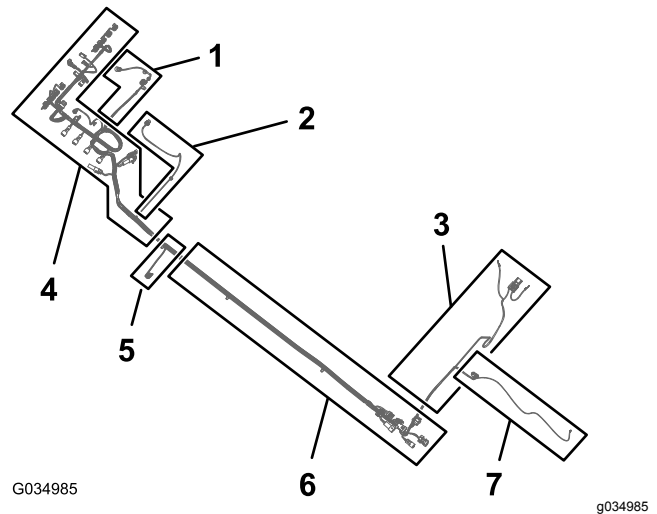

Figure 83
1. Locate the 165 cm (65 inch) branch and the 203 cm (80 inch) branch of the new electrical harness (Figure 83).